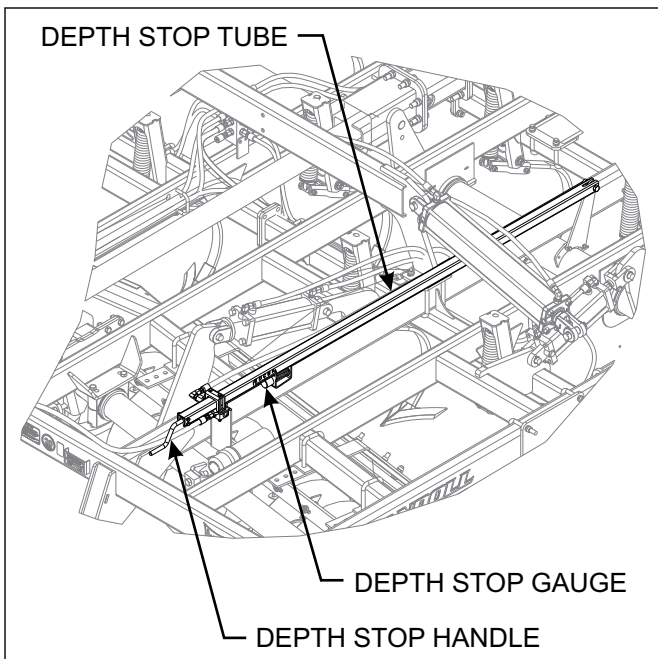

Figure 4-10: Depth Stop Adjustment
1. Adjust the depth stop by turning the handle in (clockwise) to increase operating depth See Figure 4-10. Turn the handle out (counter-clockwise) to decrease operating depth. One turn will equal approximately 3/16" adjustment in depth.
- a. Adjust the center frame cylinder anchors until there is 9” between the top of the 22” disc gang blades and the bottom of the frame **See Figure 4-10**.